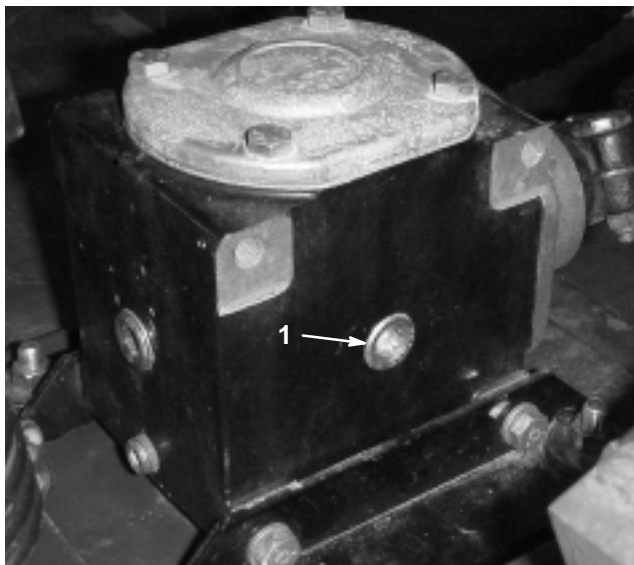

Figure 17
2. Remove the fill/check plug from the side of the gear box (Fig. 17) and make sure that the lubricant is up to the bottom of the hole. If the lubricant level is low, add enough lubricant to bring it up to the bottom of the hole.